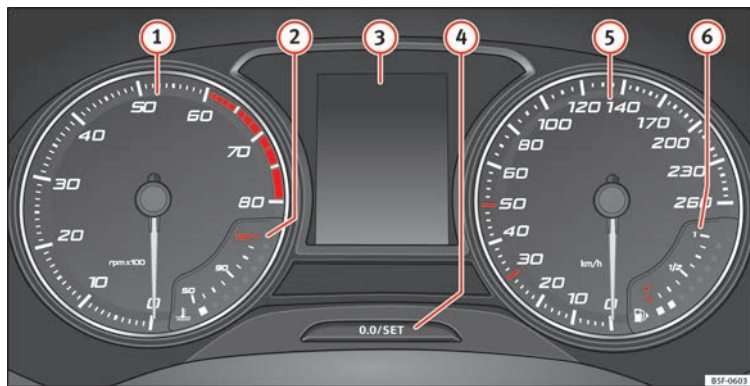

Fig. 82 Instrument panel, on dash panel
Details of the instruments » Fig. 82:
The rev counter indicates the number of engine revolutions per minute » **Fig. 82 ①**.
Never allow the rev counter needle ① » **Fig. 82** to go into the red zone on the scale for more than a very brief period, otherwise there is a risk of engine damage.
A variety of information can be viewed on the instrument panel display » **Fig. 82 ③** depending on the vehicle equipment:
- Briefly press the button »» Fig. 82 ④ to reset the trip recorder to 0.
- Keep the button ④ pressed for about 3 seconds and the previous value will be displayed.
- To set the time, keep the button »» Fig. 82 ④ pressed for more than 3 seconds to select the hour or minute display.
- To continue setting the time, press the upper or lower part of the button ④. Hold button down to scroll through the numbers quickly.
- Press the button ④ again in order to finish setting the time.
Hold the button » Fig. 82 ④ down for more than 15 seconds to display the identifying letters of the vehicle engine (MKB). To do this, the ignition must be switched on and the engine switched off.
The coolant temperature gauge ② » Fig. 82 only works when the ignition is switched on. In order to avoid engine damage, please read the following notes for the different temperature ranges. »